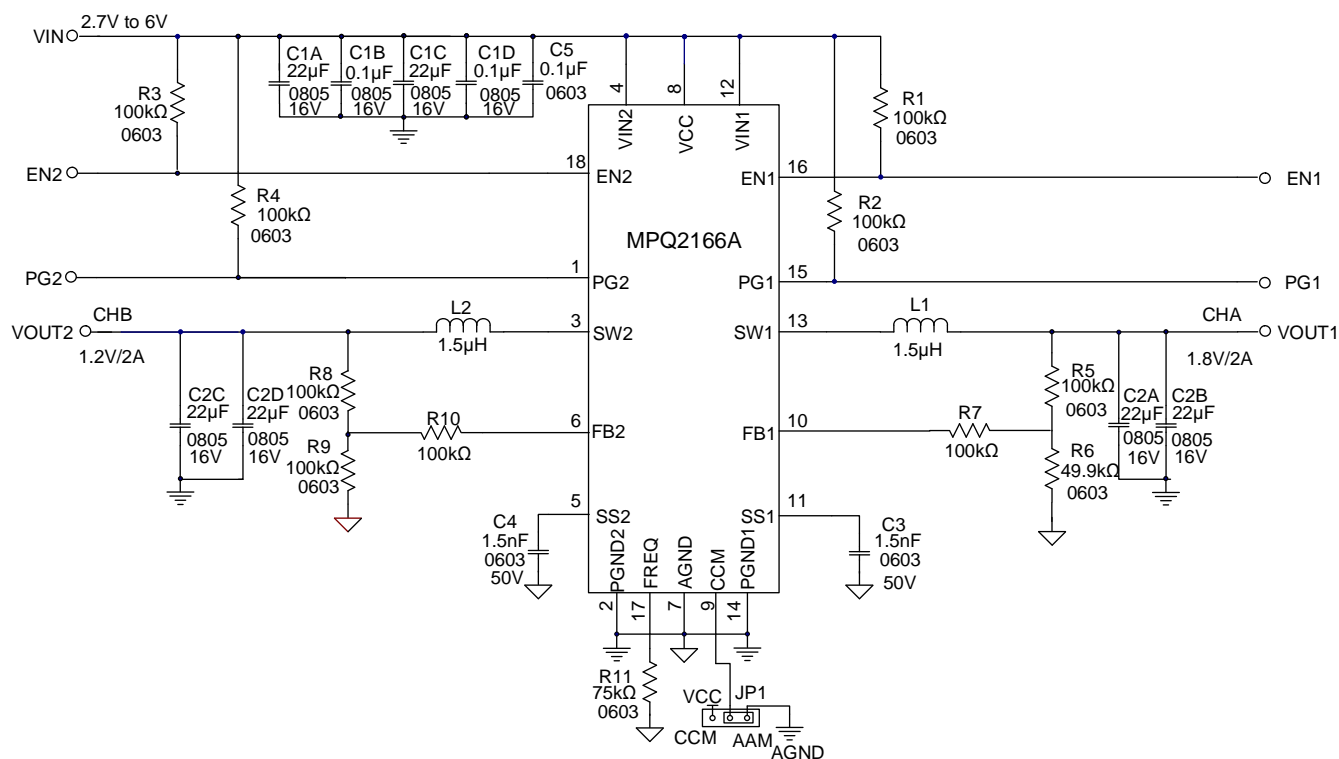

Figure 7: 2A/2A Application Circuit
- 7) The recommended PCB layout is based on Figure 7.